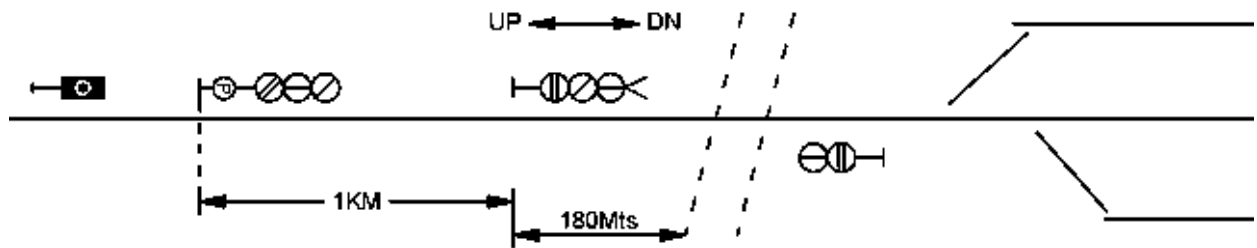
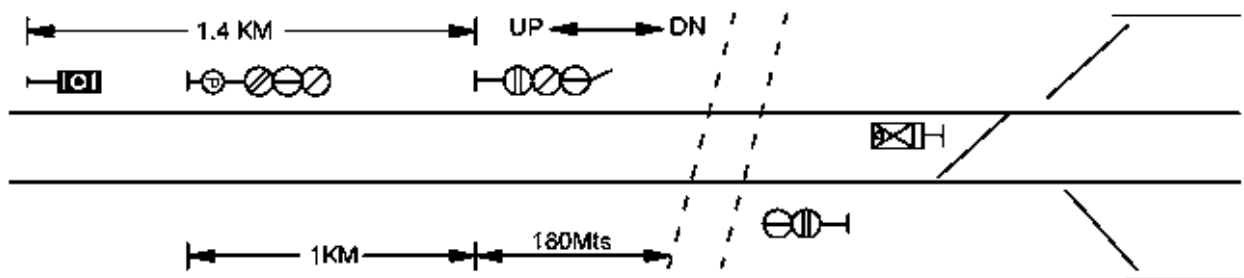

Fig.18.10
Fig.18.11
- (b) if the L.C gate is between the down Home signal and up Advanced starter on single line Fig. 18.10 or double line Fig. 18.11. The down Home signal only need to be located at 180 Mts in rear of the L.C gate and the down Distant at 1KM in rear of the down Home signal. The gate should be interlocked with down Home signal and up Advanced starter only (see fig. below).